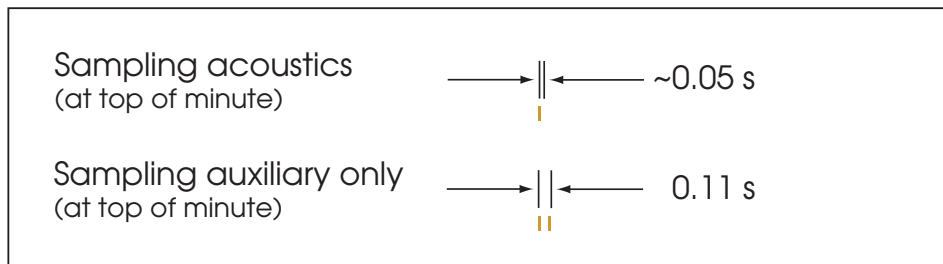

Figure 2. Normal yellow (System) LED behavior.
10. After sampling should have started, confirm that the yellow System LED flashes at the top of the minute as expected (Figure 2). If acoustic sampling is underway, the System LED will produce a single yellow flash; if no acoustic sampling is occurring but auxiliary sampling is underway, the System LED will produce a double yellow flash.